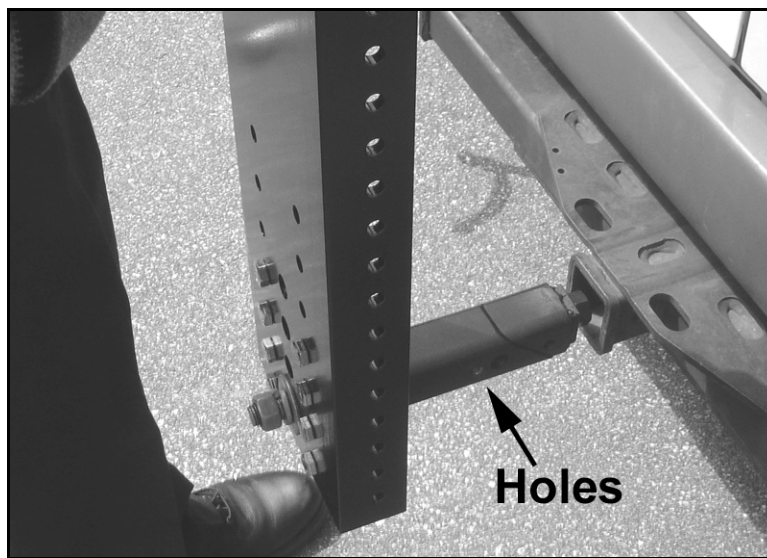

Figure 3: Insert mount into hitch receiver.
Step 1: Attach Horn antenna trailer hitch mount to the vehicle. The hitch mount is designed to fit into a Class 3 trailer hitch. Cut the zip ties that hold the fiberglass rail stabilizer and set the rail stabilizer aside. Insert the draw bar into the hitch. You will notice holes on the sides of the split mount bar (Figure 3). Line up these holes with the two holes on the side of the hitch receiver. Tighten the 1 1/8" nut on the front of the mount. This will pull in the draw bar and secure the mount to the receiver.